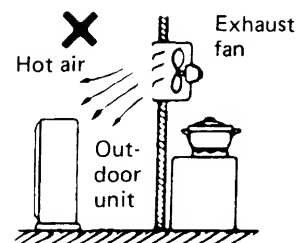

Fig. 3
- heat sources, exhaust fans, etc. Fig. 3